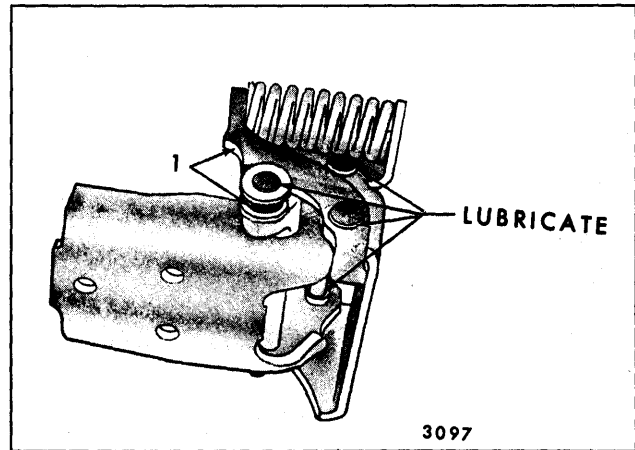

Fig. 2-3—"A-B & C" Styles Front Door Hinge Lubrication
2. Apply a thin coat of white lithium soap grease (Auto-Lube "A", Part No. 1050110, or Spray-Lube "A", Part No. 1050520 or equivalent) to the friction areas of the front door hinge at the points indicated, except detent roller pin which should be lubricated with SAE 30 Motor Oil (Fig. 2-3).
1 in Figure 2-3, would result in a sliding action instead of the desired rolling action.
2. Apply a thin coat of white lithium soap grease lubricant (Auto-Lube "A", Part No. 1050110, or Spray-Lube "A", Part No. 1050520 or equivalent) to the friction areas of the rear door hinge at the points indicated except detent roller pin which should be lubricated with SAE 30 Motor Oil (Fig. 2-3).